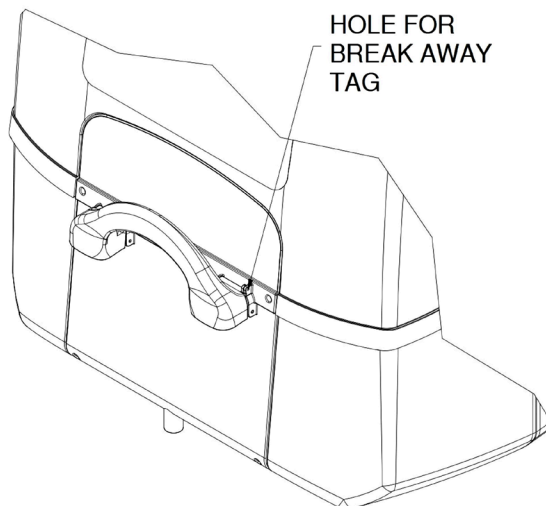

FIGURE 13
- A. With lid assembly installed and tray closed, place easy Break Away Tag through hole provide on right side of handle (**Ref Figure 13**)
- B. Visually inspect easy Break Security Tag is intact (Ref Figure 13).